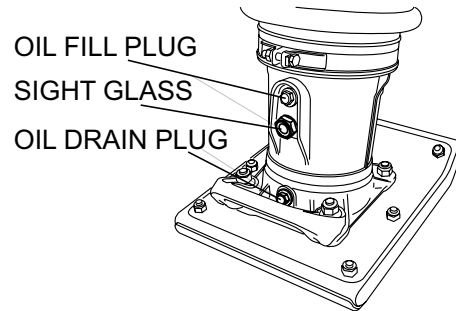

Figure 18. Oil Drain Plug
- Remove the oil drain plug on foot housing (Figure 18) and drain the oil. Refill with approximately 0.69 qt. (0.65 liter) of 10W-30 SE, SF or higher grade motor oil. Oil should be midway in sight glass. Break in oil should be changed after first 50 hours.